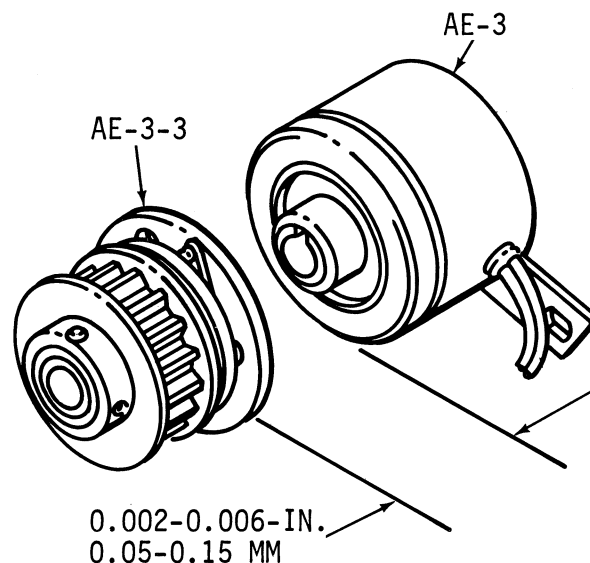

Figure 5-5. FORWARD CLUTCH ADJUSTMENT (AIR-GAP)
B. Forward Clutch, Rotor/Armature (Air-Gap) (Fig. 5-5)
- (b) Using an allen-wrench on the adjusting screws, adjust a clearance of 0.002-0.006 thousandths inch max. (0.06-0.16 mm) between armature and rotor. (See Figure 5-5)